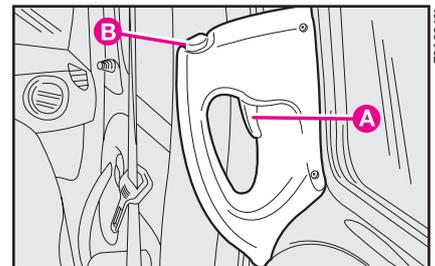

fig. 112
**Opening:** pull the release lever **A**-**fig. 112** and make the door slide backward.